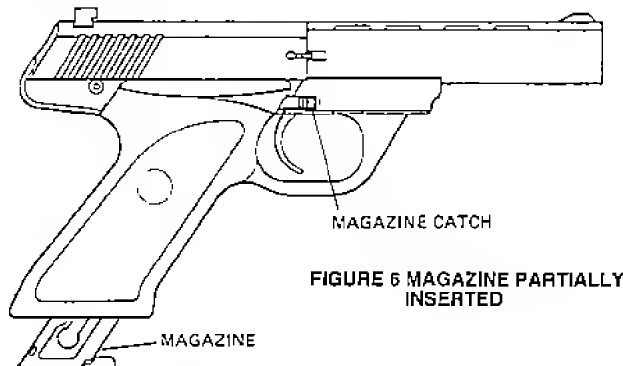

FIGURE 6 MAGAZINE PARTIALLY
2. Remove empty magazine from pistol. Place hand under magazine to prevent it from falling. Press magazine catch to drop magazine out of the magazine well of the pistol. Note that magazine catch is on right side of pistol just above trigger . . . see Figure 6.